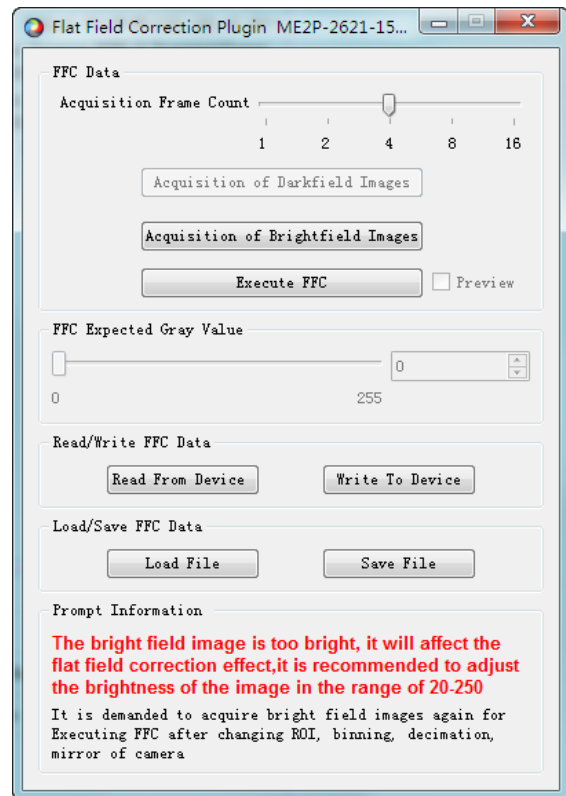

Figure 9-9 The bright field image is too bright
5) If the brightness of the acquired bright field image is greater than 250, it will prompt in the prompt box that the acquired bright field image will affect the effect of FFC, as shown in Figure 9-9. In this case, it is recommended to adjust the image brightness in the range of 20~250, and then reacquiring the bright field images.